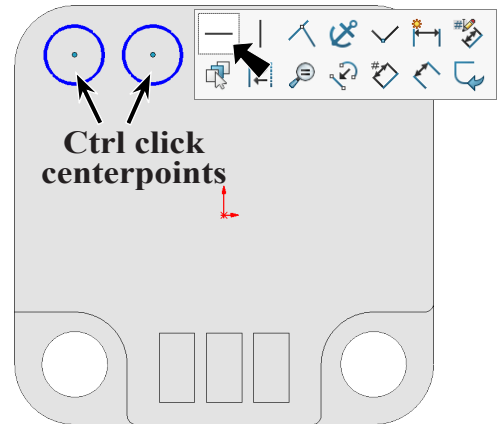

Fig. 59
Step 7. **Ctrl click both circle centerpoints** to select both. Release **Ctrl** key and click **Make Horizontal**  on the context toolbar, **Fig. 59**.